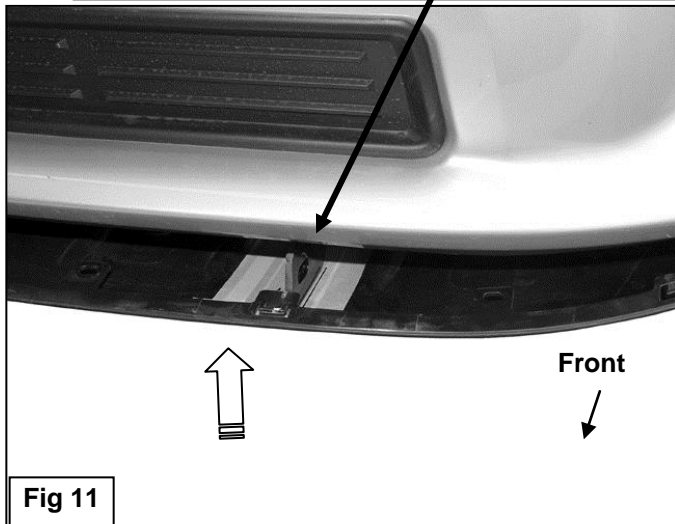
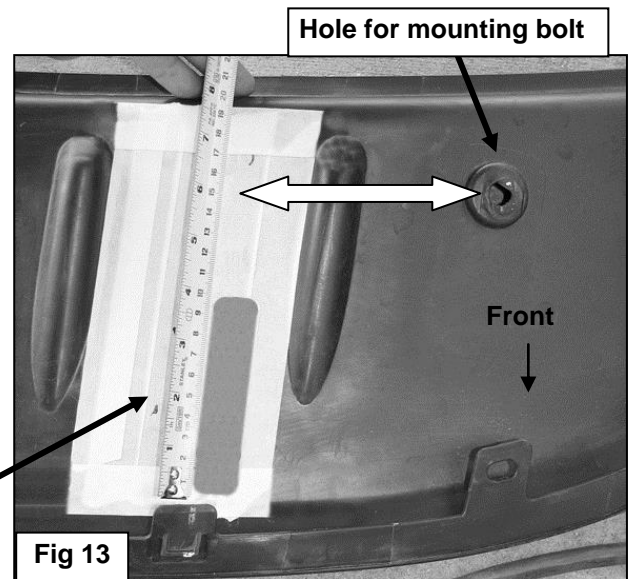

Fig 11
Fig 13
7. Hold the splash guard up to the bumper cover and align it with the mounting points, **(Figure 11)**. Mark the location of the Mounting Brackets onto the back of the splash guard, **(Figures 11—13)**. Cut an approximately 1" wide by 4" long slot in the splash guard, **(Figure 13)**. **NOTE:** The size of the slot is an estimate only and may vary due to different factory designs for the splash guards and front bumper covers. Also, additional cutting may be required to clear the Support Bracket on vehicles equipped with tow hooks. **IMPORTANT:** To avoid weakening the splash guard, do not cut the slot any larger than necessary. Do not cut through the front or back edges of the cover, **(Figure 13)**. Make several small cuts first and check the fit often for a clean installation.